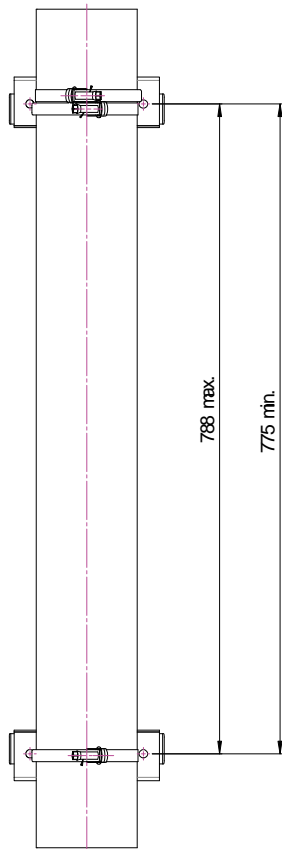

figure 4-2 Pole mounting - pitches
1. Use two screw bands (B) for the upper and one for the lower bracket to fasten the two brackets (A) to the pole.
**Note:** When fastening the brackets make sure that they are installed congruently and not at an angle to each other. To determine the distance between the clamps refer to figure 4-2 Pole mounting - pitches.
3. Hang the Remote Unit into the upper bracket, insert it into the lower bracket, and fasten it to the lower bracket with the M8x25 screws (C), split lock washers (D) and washers (E), see chapter 4.2.3.